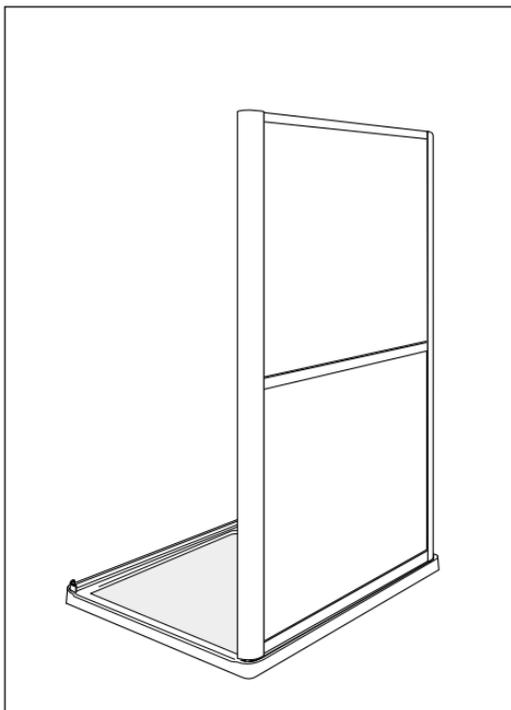

Fig 4.5
6. Fig 4.5 Position the corner post making sure the door adjustment slots are at the bottom. Tighten up grub screw.